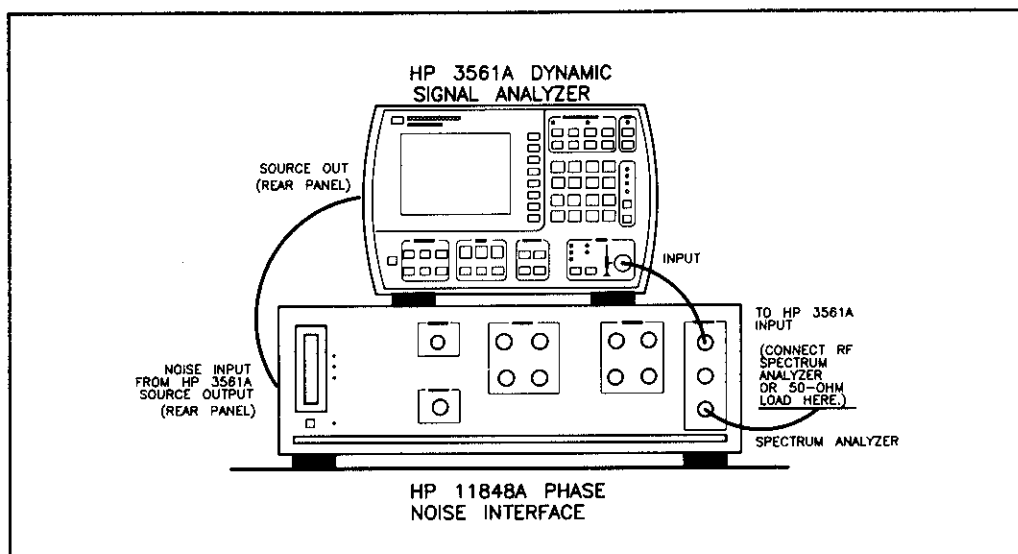

Figure 29. Third Option 2 Calibration Setup
9. Connect the instruments as shown on the display and in figure 29.